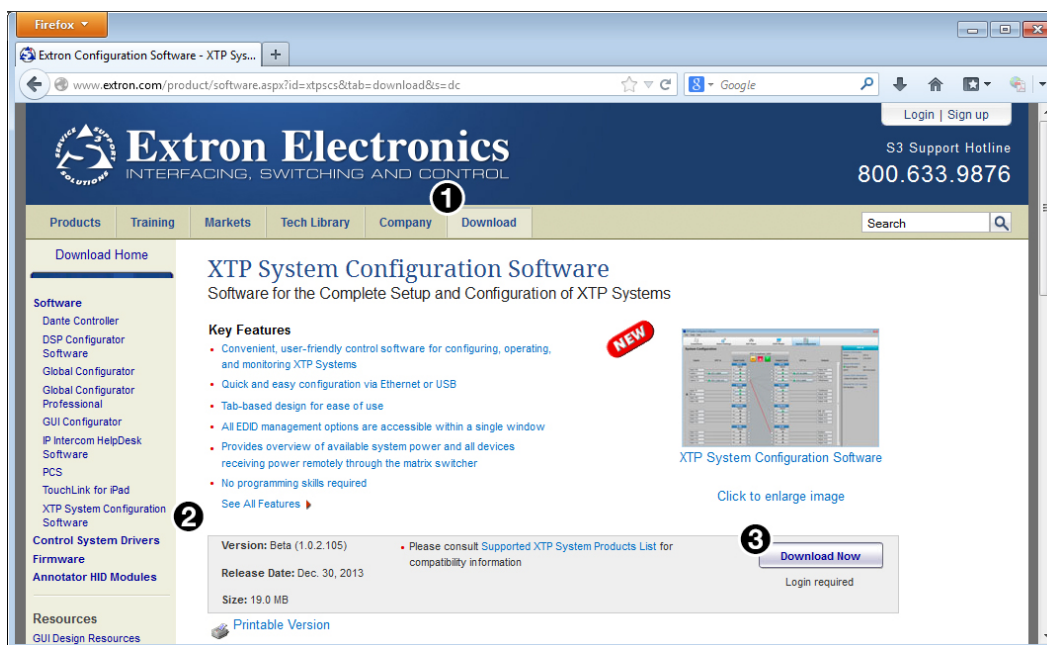

Figure 11. Extron Website Download Page
1. On the Extron website, click the **Download** tab (see figure 11, **1**).
2. From the left sidebar, click the **XTP System Configuration Software** link (see figure 11, **2**).
3. Click the **Download Now** button (see figure 11, **3**).